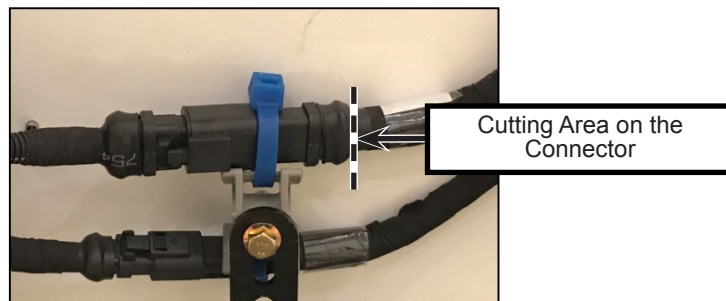

Figure 6 - Harness Side Connector Removal
- 1.13. On the harness side, cut the DTP power connector with the terminals directly at the back end of the connector housing (see figure 6) and clean the wires with contact cleaner, if glue or dirt is present.